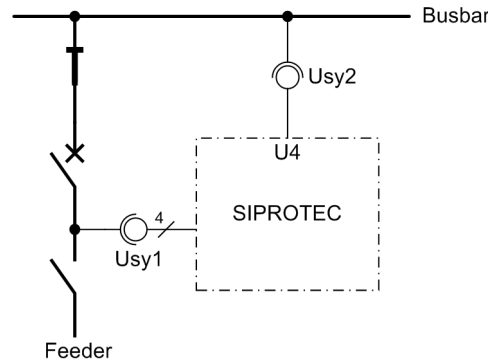

Figure 3-32 Measuring voltages for the synchrocheck — example
- Then the circuit breaker is closed while the line isolator is open (see Figure 3-32). Both voltage transformers therefore measure the same voltage.